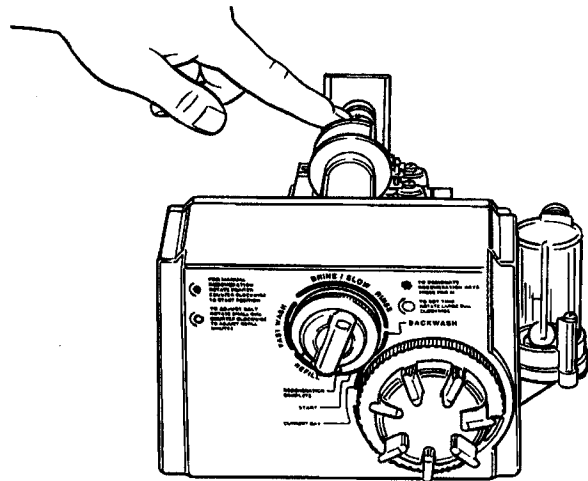

Figure 11
position. Press down on the back of the camshaft to disengage it from the rear "hoop" of the top plate, Figure 11.
3. Relieve system pressure by opening the rinse drain valve (the fifth valve back from the control) with a screwdriver, Figure 11.